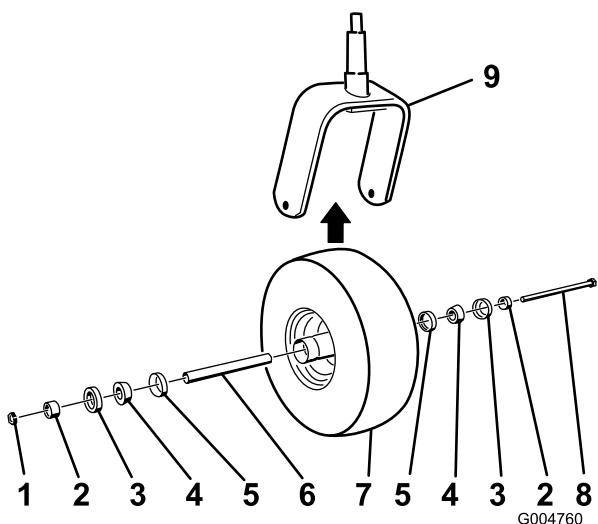

Figure 53
2. Remove the locknut from the bolt holding the castor wheel assembly between the castor fork (Figure 53).
5. Assemble the castor wheel by pushing the cone bearings and seals, packed with grease, into the wheel hub, positioned as shown in Figure 53.